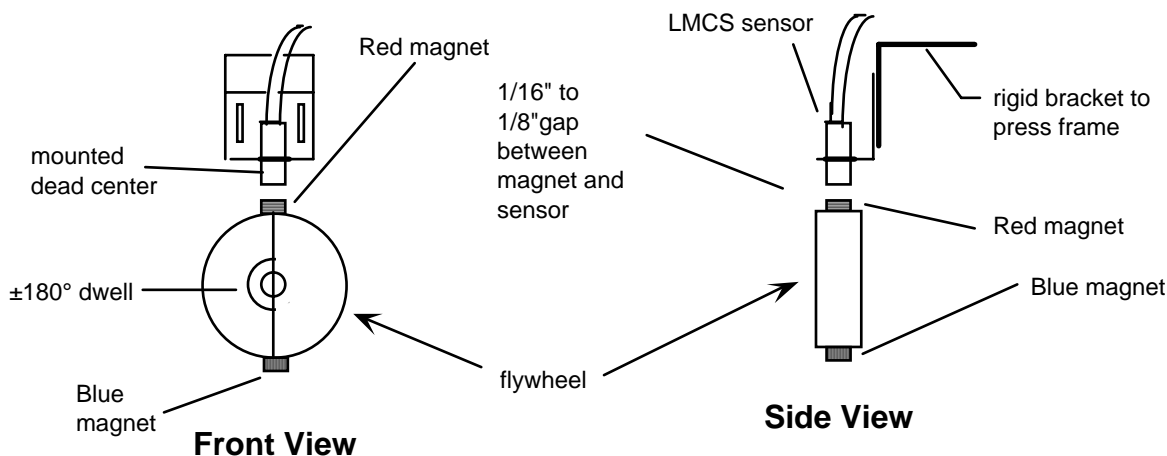

Figure 2-18. Installing the LMCS and magnets
3. Install the LMCS as shown in Figure 2-18. To mount the magnets, make sure you use non-magnetic brass or nylon screws, or epoxy adhesive. The magnets should be installed plastic side up with a non-ferrous metal screw. It is important not to use a ferrous screw because it could cause false signals. A brass screw is supplied.